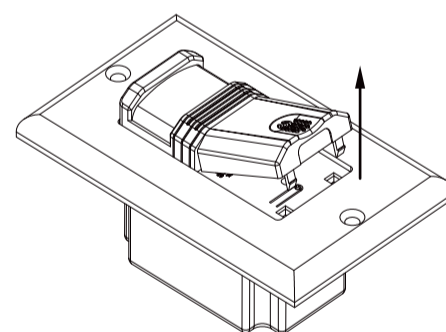

Figure 6: Lift the screwdriver upward to open the cover.
- Gently lift the screwdriver upward to unlatch the cover (see figure 6).